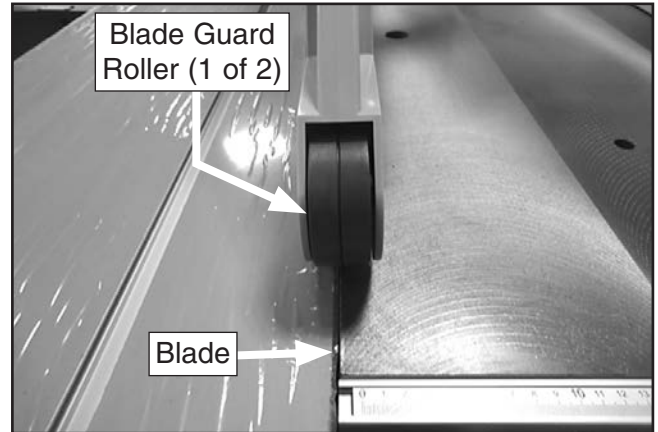

Figure 59. Blade guard rollers centered over blade.
59. Slide upper support arm until at least one blade guard roller is centered over blade (see **Figure 59**), then tighten hex bolt from **Step 52** to secure upper support arm.
60. Ensure front and rear blade guard rollers are parallel with blade (see **Figure 59**).